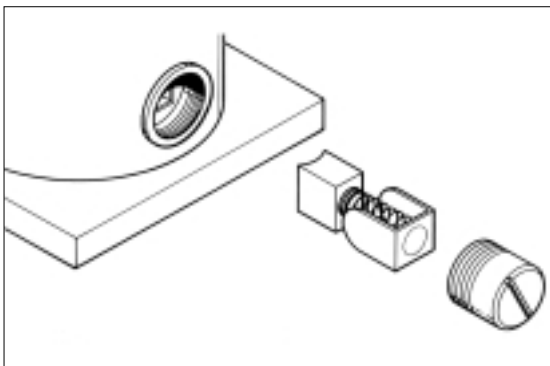

Figure 5 - Drive Motor Brush Replacement
2. Unscrew the brush retaining plugs from the motor and remove the brushes, Fig. 5.